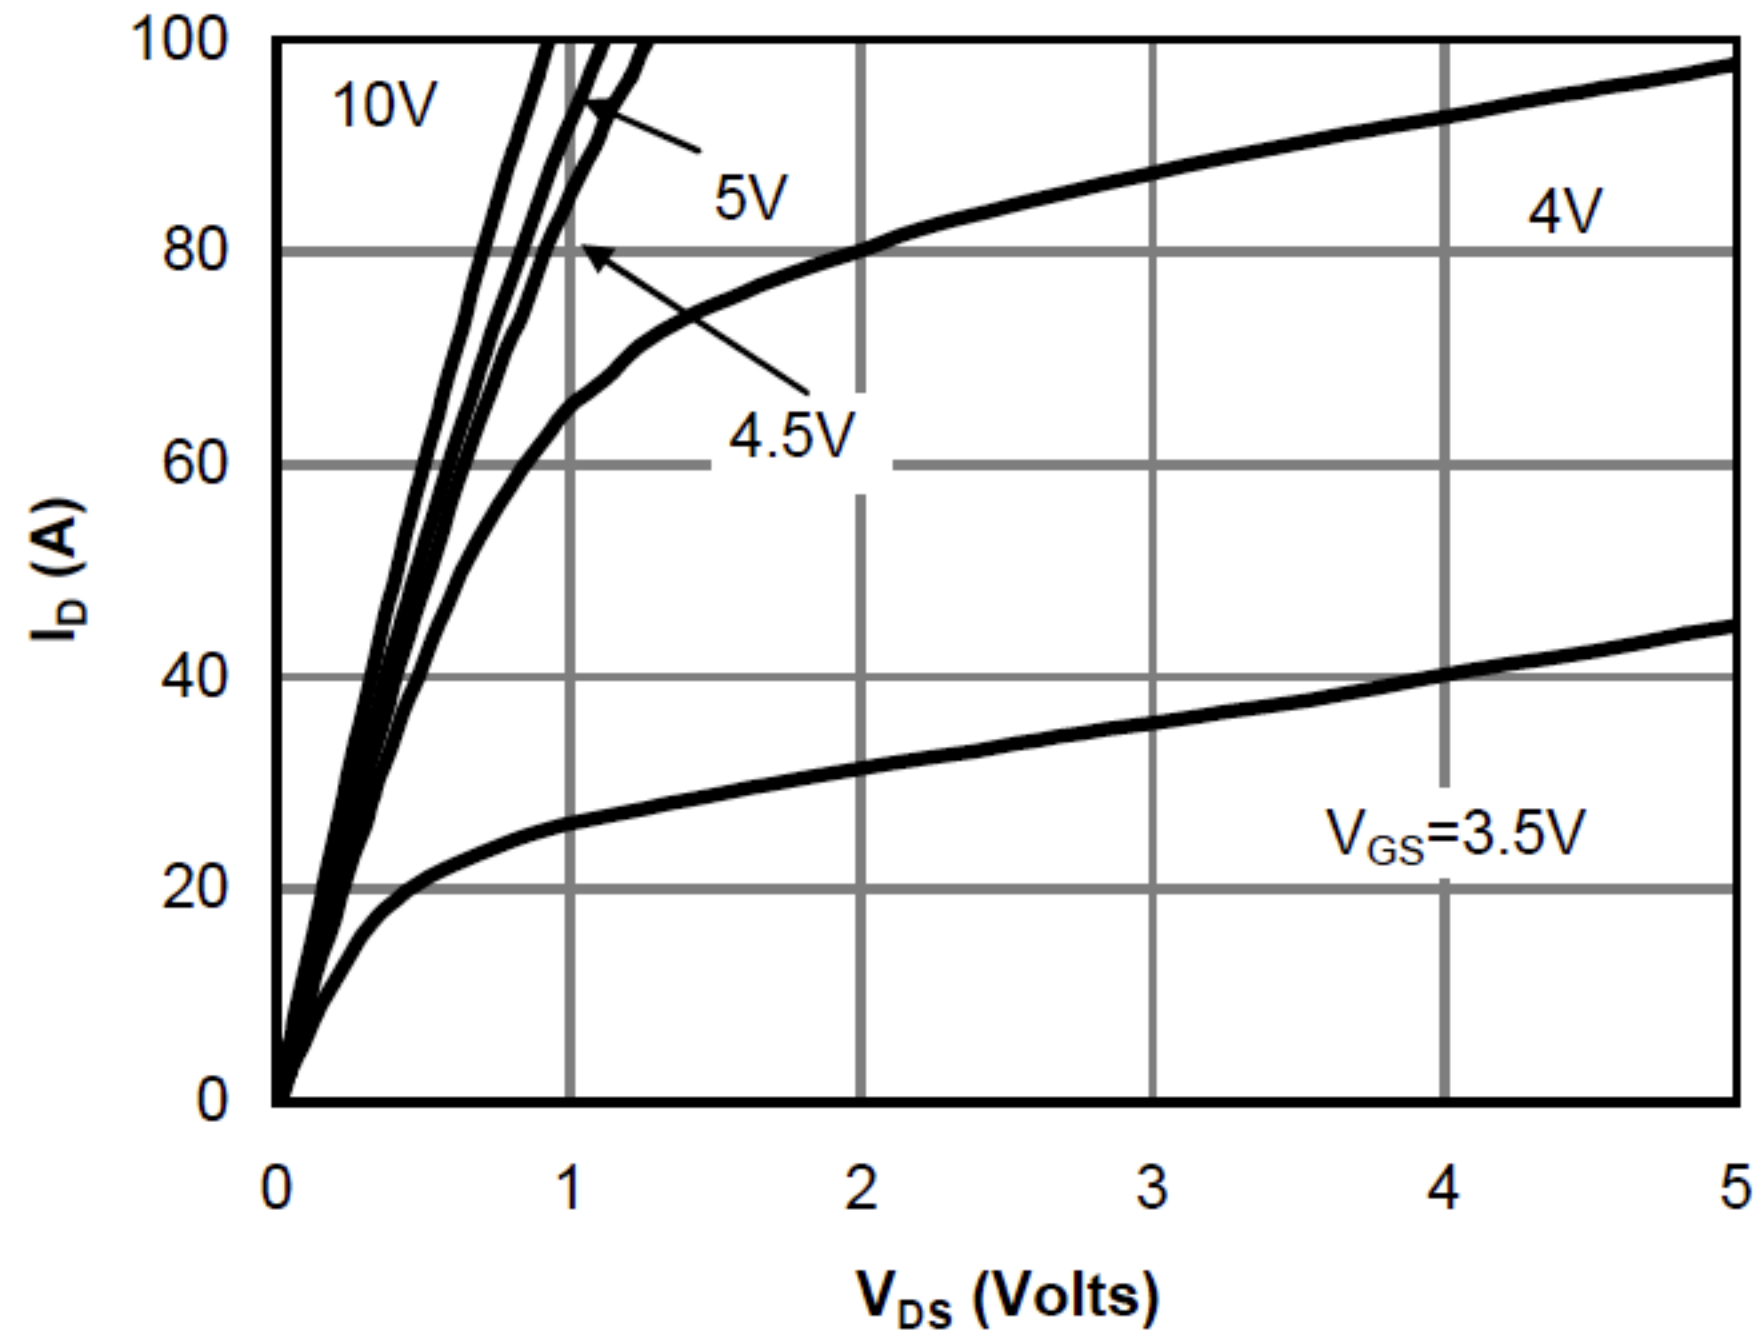

Fig 1: On-Region Characteristics (Note E)
E. The static characteristics in Figures 1 to 6 are obtained using <300 μs pulses, duty cycle 0.5% max.